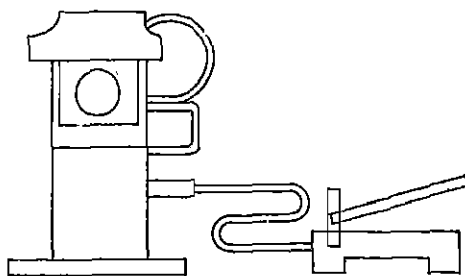

Fig. 18.3 Compression Tool Operated by Foot (Electric or Pneudraulic Power Pump)
- (iii) Compression tool operated by foot, electric or pneudraulic power pump (Fig. 18.3)